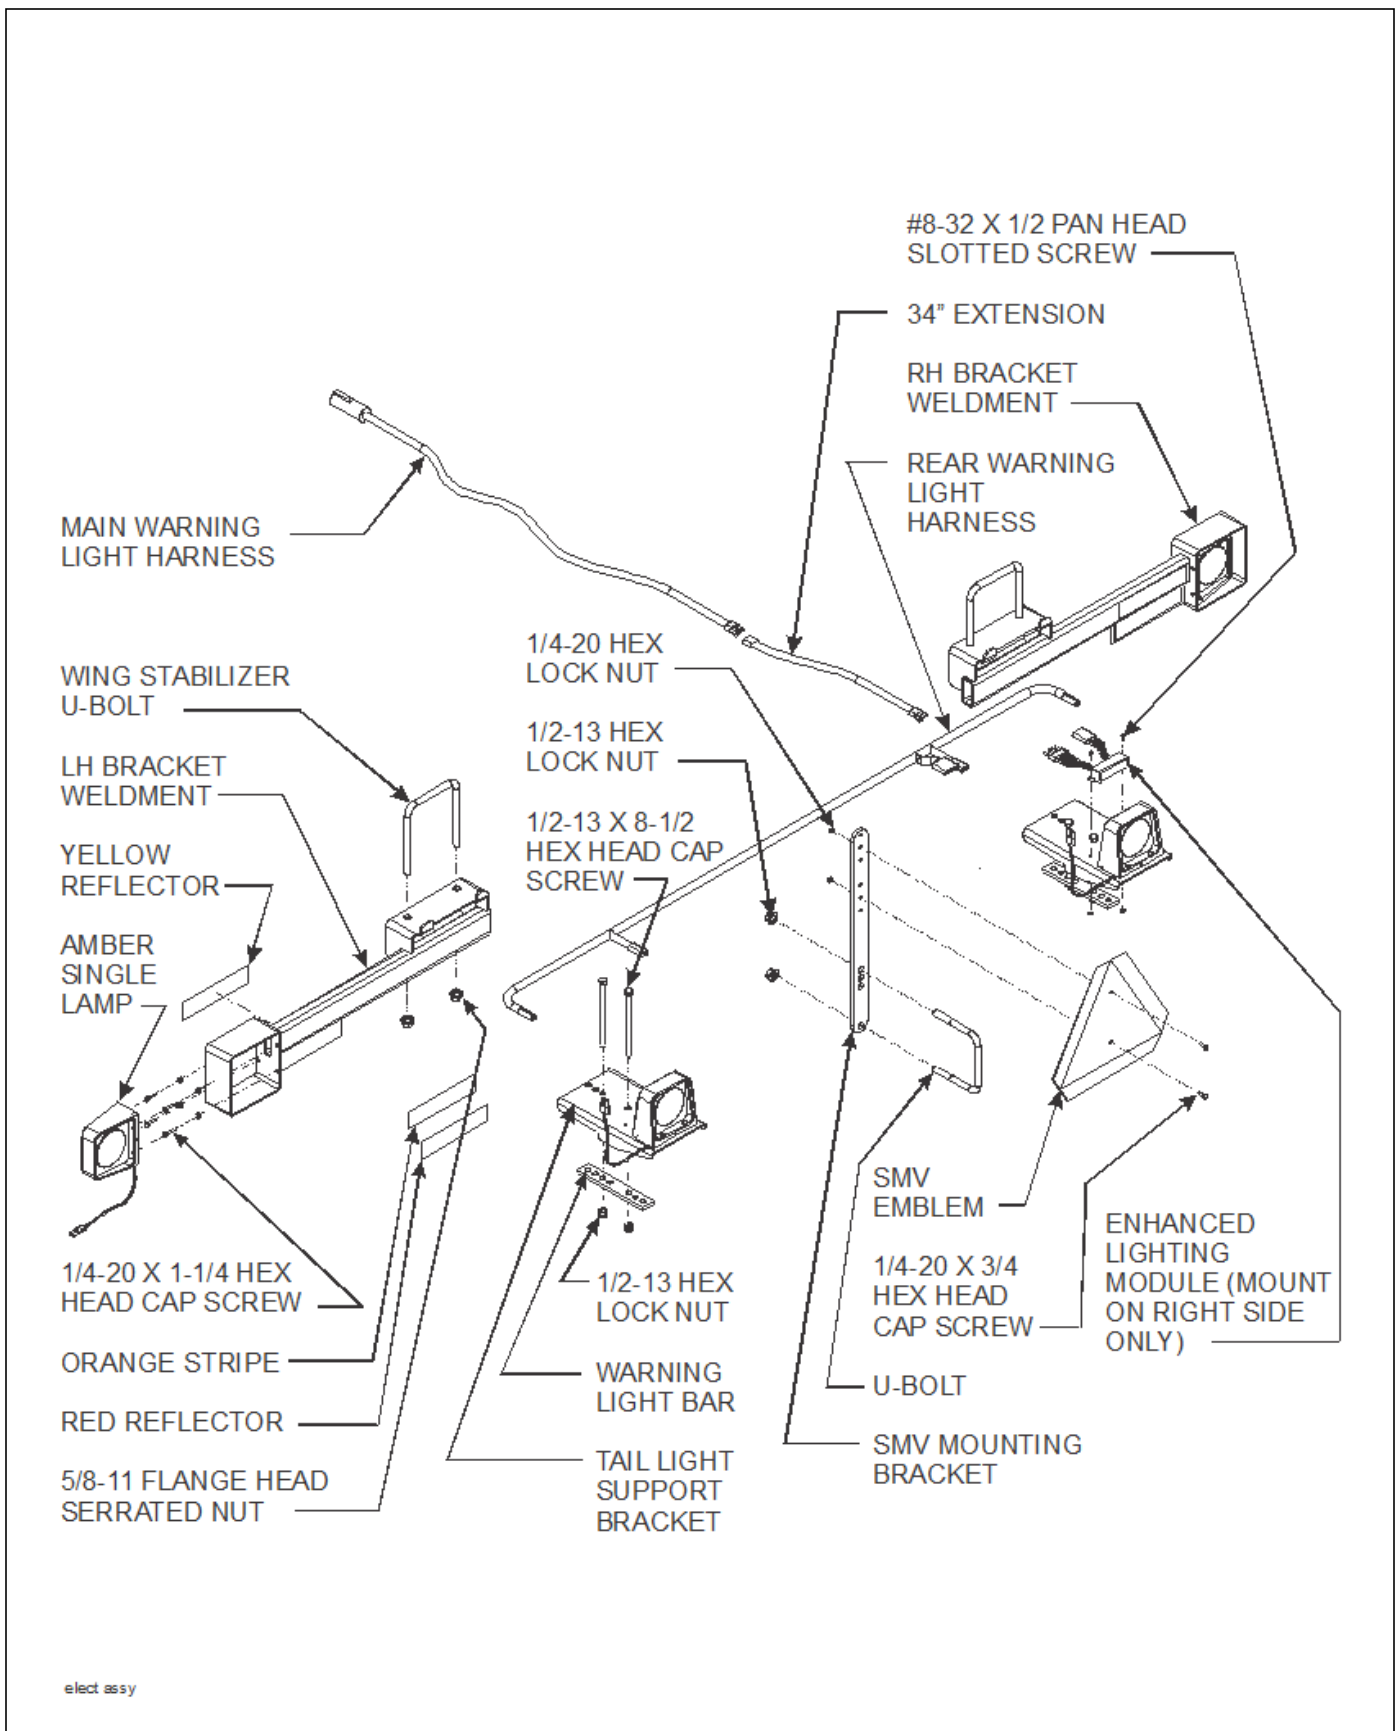

Figure 3-21: Light and SMV Bracket Installation (Prior to August, 2013)
1. Attach lights and mounting brackets to the center frames using u-bolts, 1/2-13 x 8-1/2 hex head cap screws, flange head serrated nuts, and hex lock nuts **(See Figure 3-21.) Refer to pages 2-8 thru 2-17** for light bracket placements.